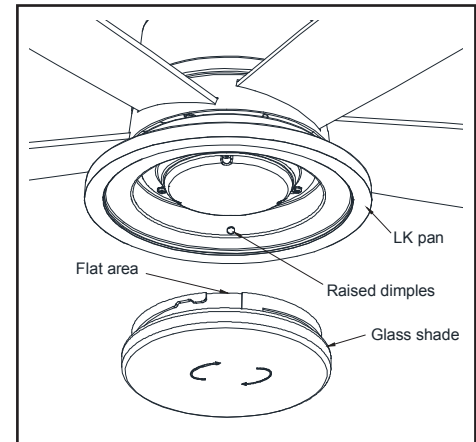

Figure 16
5. Place the glass shade into the light kit pan, aligning the three flat areas on the top of the glass shade with the three raised dimples in the light kit pan. Turn the glass shade clockwise until it stops. (Figure 16)